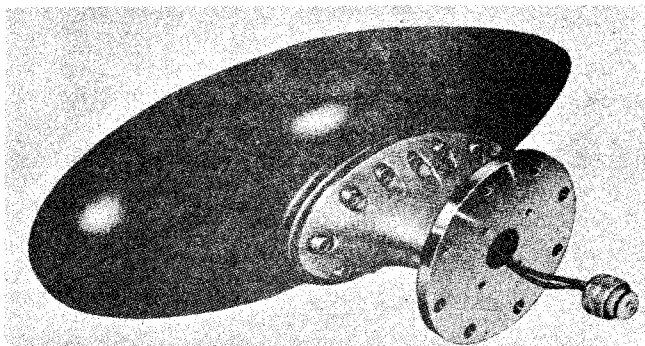
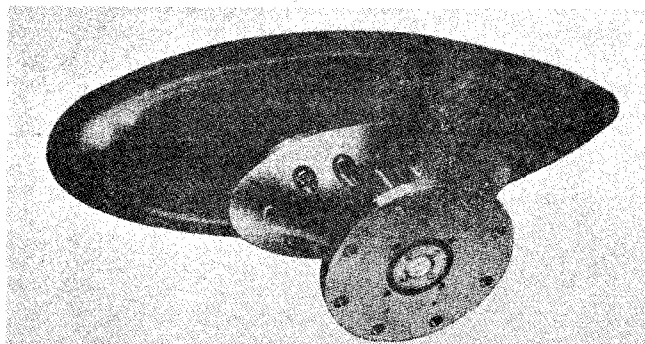

Figure 1-2. Navy Type AT-317/BRR and AT-317A/BRR VLF Loop Antenna.
Figure 1-2A. Navy Type AT-317B/BRR VLF Loop Antenna
a. ANTENNA.— The AT-317/BRR, AT-317A/BRR (fig. 1-2) and AT-317B/BRR (fig. 1-2A) consists of two loop windings orientated at right angles to each other on a common cylindrical ferrite core. The loop inductor windings and core assembly are imbedded in a solid "teardrop-shaped" polyethylene shell which is covered with a 1/4 inch jacket of neoprene rubber. Such a shape tends to reduce